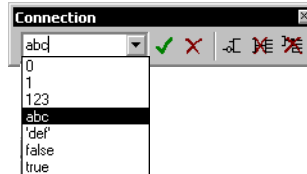

Figure 45. Connection Toolbar
- Select a port in the Function Diagram, edit the connect string in the drop-down combo box of the Connection toolbar, and press <Enter> key or click **Enter connect string**, as shown in Figure 45.
- Select a port in the diagram and select an already existing connect string from the drop-down combo box of the Connection toolbar, see Figure 45.